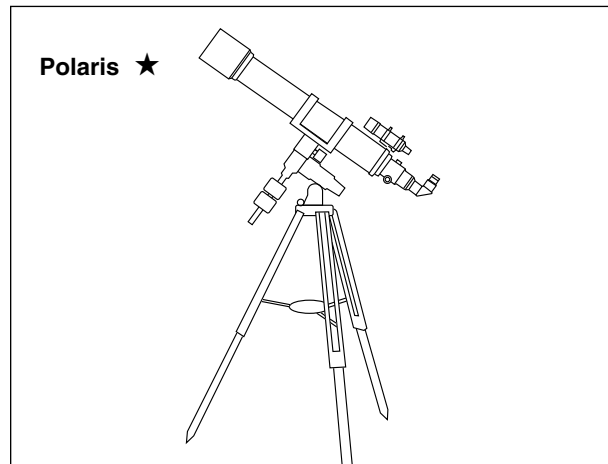

Fig. 13: Telescope aligned too high.
- b. If the star drifts North, the telescope's polar axis is pointing too high (Fig. 13).